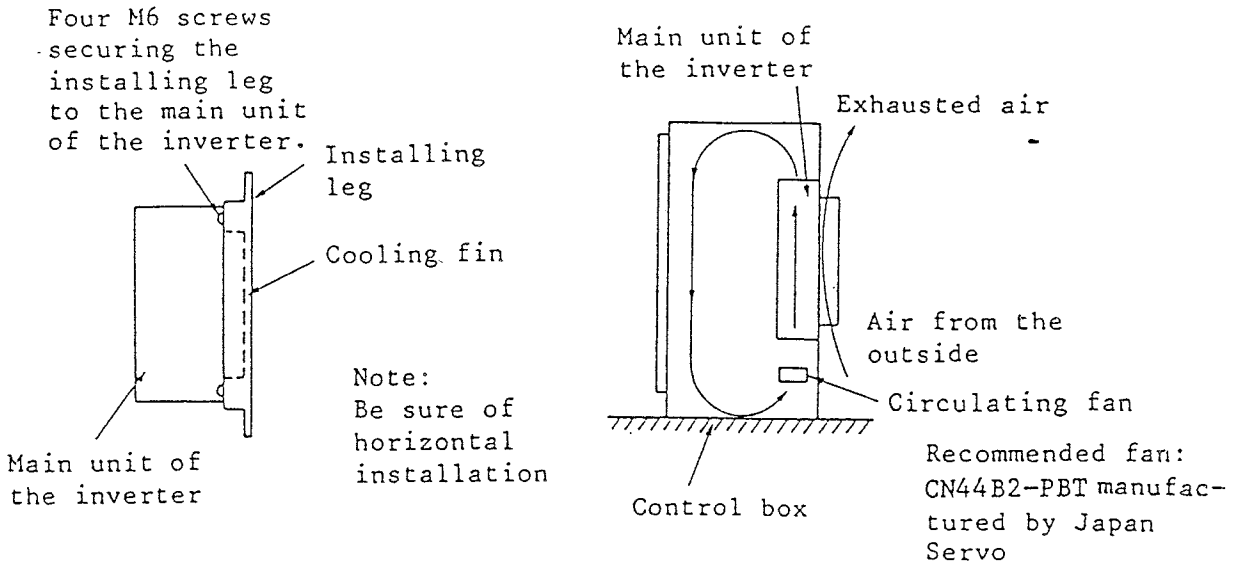

Figure 2 Inverter HFC-VAH2 2.5 kVA or HFC-VAH2 5.5kVA Installed in a Fully-Closed Control Box
- (7) When installing the HFC-VAH2 2.5LB2 or HFC-VAH 5.5LB2 inverter in a totally-enclosed control box, remove the four M6 screws which secure the installing leg to the main unit of the inverter as shown in Figure 2. Then, remove the cooling fin from the rear panel of the inverter and install it outside the control box. This allows temperature rise in the control box due to heat from the cooling fin to be reduced. However, be sure to install a fan in the control box for forcible convection so that the temperature in the control box does not exceed 50°C and is made uniform.